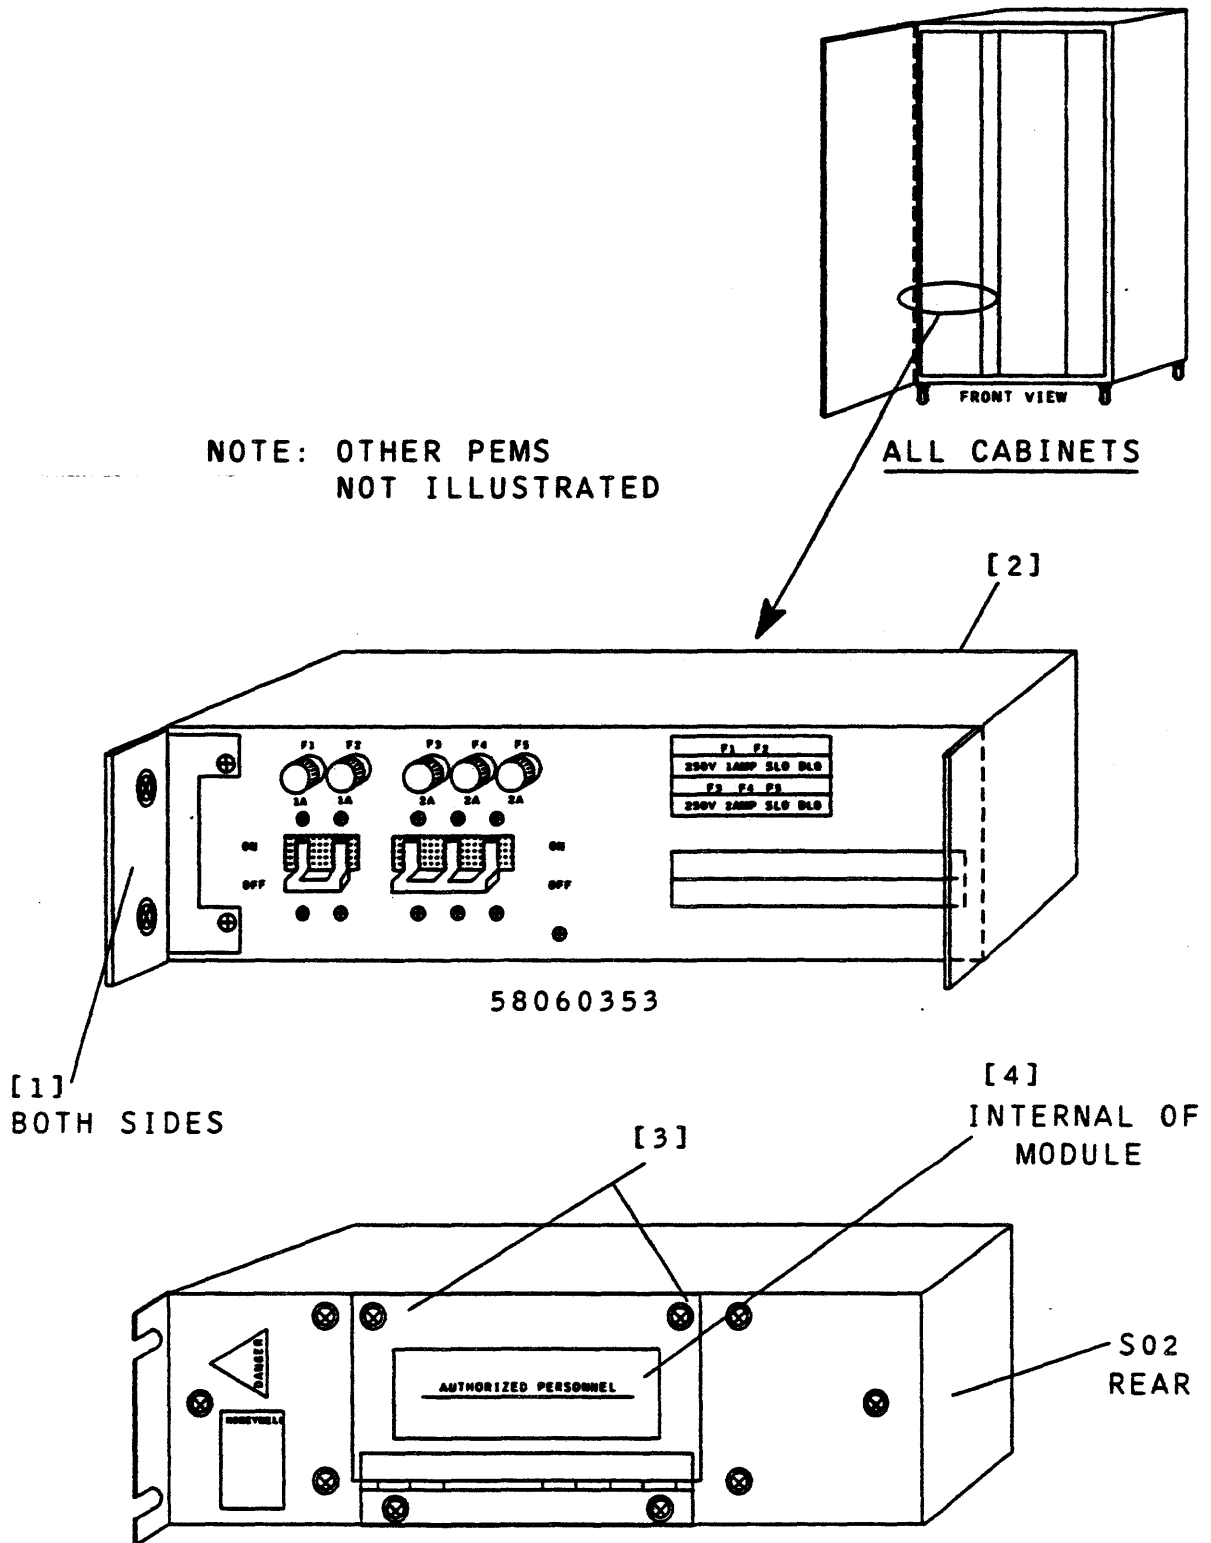

FIGURE 2.20-1. POWER ENTRY MODULE REMOVAL/INSTALLATION
6. Using cross-tip screwdriver, remove faulty module's front bracket retaining hardware (Figure 2.20-1, [1]).
7. Disconnect connector plugs P1, P2, and P3 from rear of faulty module (Figure 2.20-1, [2]).
8. Using a cross-tip screwdriver, open Circuit Breaker Module (S02) rear compartment cover (Figure 2.20-1, [3]).
9. Using a ratchet and socket, disconnect power and ground lead connections between S02 and S03 (Figure 2.20-1, [4]).